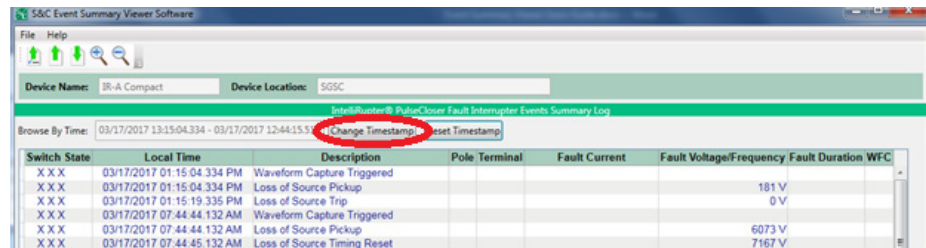

Figure 17. The Change Timestamp button.
STEP 1. Click on the **Change Timestamp** button. See Figure 17.